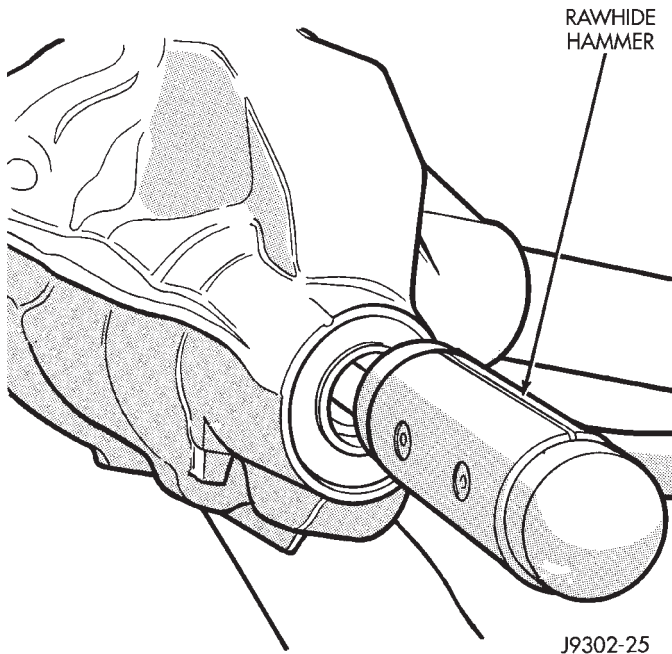

Fig. 46 Remove Pinion Gear
(6) Remove the pinion gear from housing (Fig. 46). Catch the pinion with your hand to prevent it from falling and being damaged.